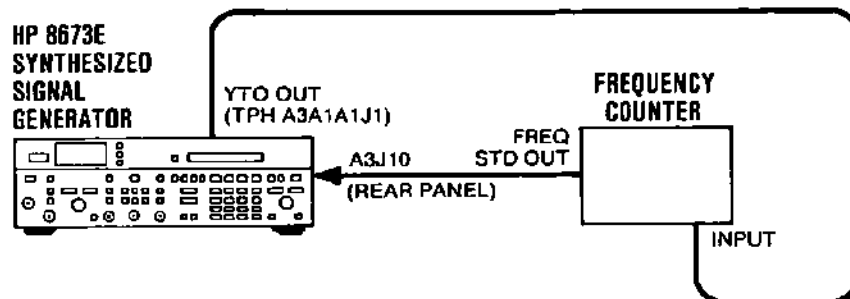

Figure 8-20. HP 8673E Baseband Frequency Test Setup
counter should be connected as in Figure 8-20). Refer to BD1, top and bottom view drawings for test point locations.
36. With frequency counter connected as in Figure 8-20, measure the frequency at the following test points: